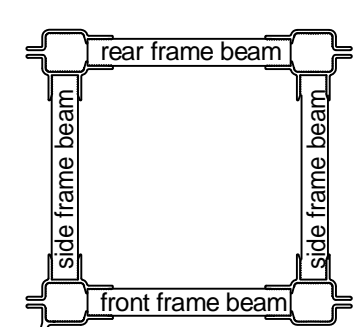

Fig. 2D
- ❑ Frame beams are fastened to the corner posts using the lower clamps. See clamp layout top view in Fig. 2D. The clamps must be 1" from the bottom of all corner posts.